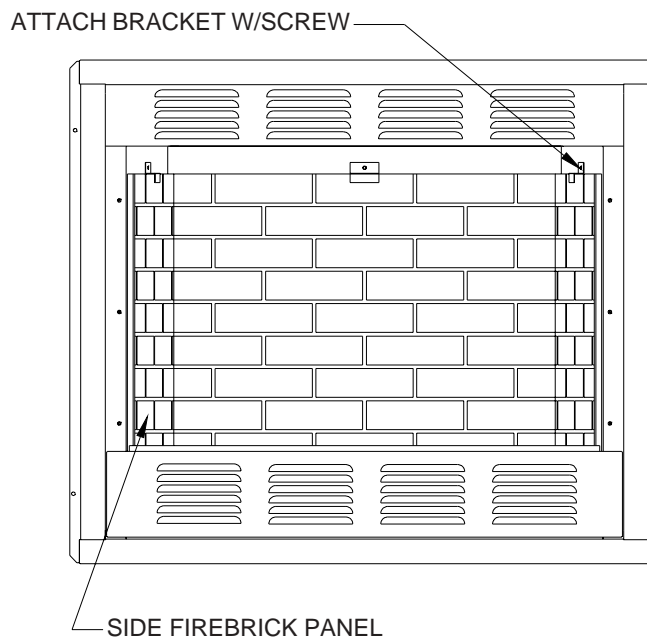

Figure 7b
5. Place the side firebrick panels in the firebox, as shown in *Figure 7b*.